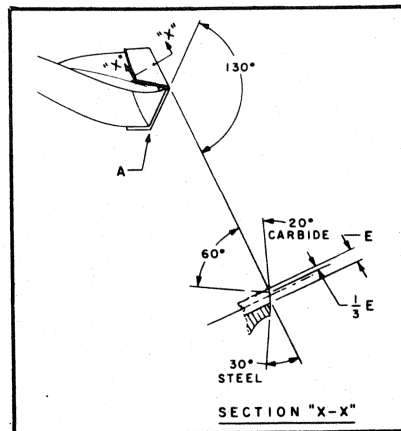

Fig. 9
2. If edge (A) is rounded, true the included angle to 130 degrees until a sharp edge exists as in Fig. 9.
3. Grind narrow face of tip and supporting steel to 60 degrees as shown in section X-X, Fig. 9.
4. Grind wide face to 20 degrees and relieve supporting steel another 30 degrees as shown in section X-X, Fig. 9.